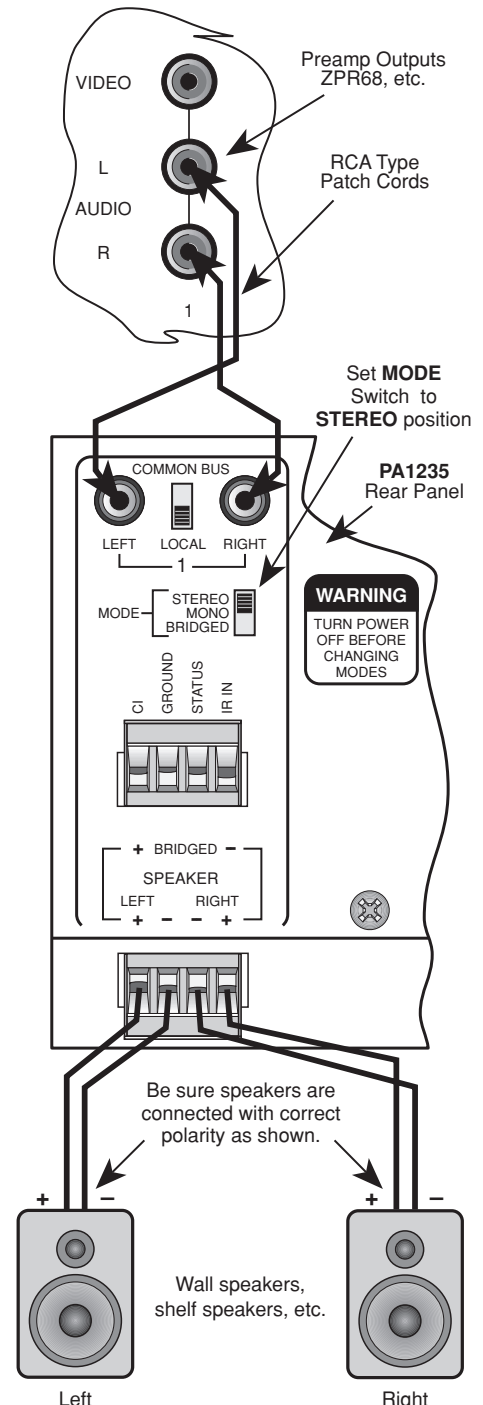

Fig. 6 STEREO Mode Connections
- Using good quality RCA-type patch cables, connect the L and R OUTPUT jacks of the driving preamp to the LEFT and RIGHT input jacks on the PA1235. Do this for each amplifier pair. Refer to **Fig. 6**.
- Be sure to observe correct polarity by connecting the "+" and "-" terminal from each channel on the PA1235 to the corresponding "+" and "-" terminals on each speaker. This will ensure correct "phasing". See **Fig. 6** and Speaker Phasing, following.
- If the "+" (positive) and "-" (negative) terminals on your speakers are correctly marked, and visible, and you have wired the system as shown in **Figs. 6 and 7**, then the system will be "in phase". No further action is required.
10. When connecting speakers for each room, be sure to observe correct polarities as shown in **Fig. 6**.